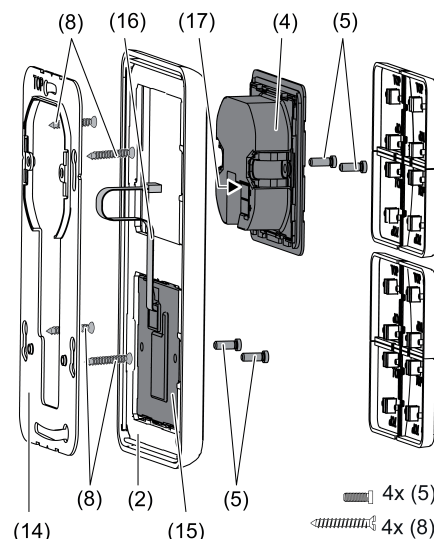

Figure 2: Mounting with push-button expansion module
When the push-button expansion module is used (figure 2): Preferably mounted vertically. Use large supporting frame (14). When mounting on only one flush-mounted box, countersink the lower screws into the wall, e.g. with a $\varnothing 6 \times 10$ mm hole. Use supporting frame as template.